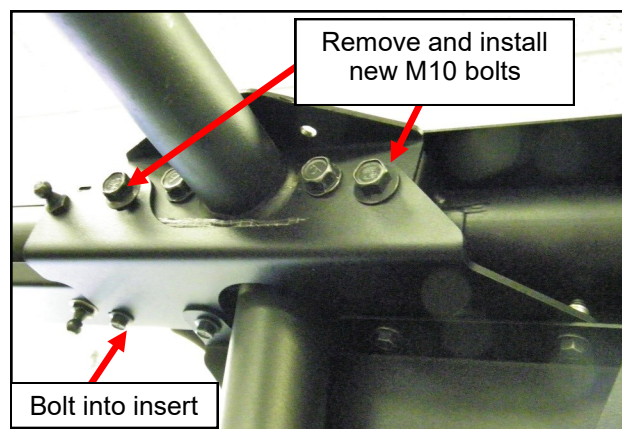

Fig. 8.2 (Canopy gas spring bracket)
**8.2** Per figure 8.2, remove the (2) M10 bolts at the center ROPS cross tube, the farthest to the front and rear, from the left (driver's side) end of the cross tube. Place the left gas spring bracket against the ROPS as shown and secure it with new, longer M10 bolts and leave loose.
**8.3** Per figure 8.2, insert one 1/4-20 bolt through the mount and into the insert in the header and leave loose. Install (3) 1/4-20 bolts through the B-pillar upper flange into the threaded inserts in the gas shock bracket and leave loose.